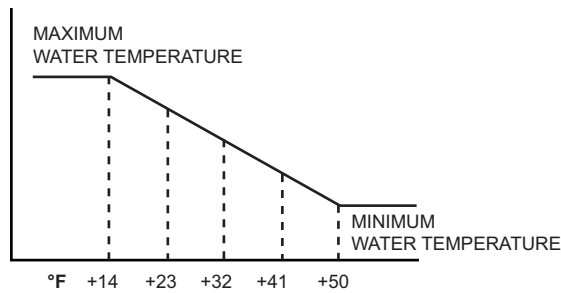

Fig. 5
8.6 On the electronic aquastat (marked "WATER TEMPERATURE"), select the **maximum** water temperature required (1-10) by the type of installation. Please see Table 6 below for the temperature obtained according to the knob position. The **minimum** water temperature is reset automatically by the outdoor sensor. Please see the variation graph in Fig 5.